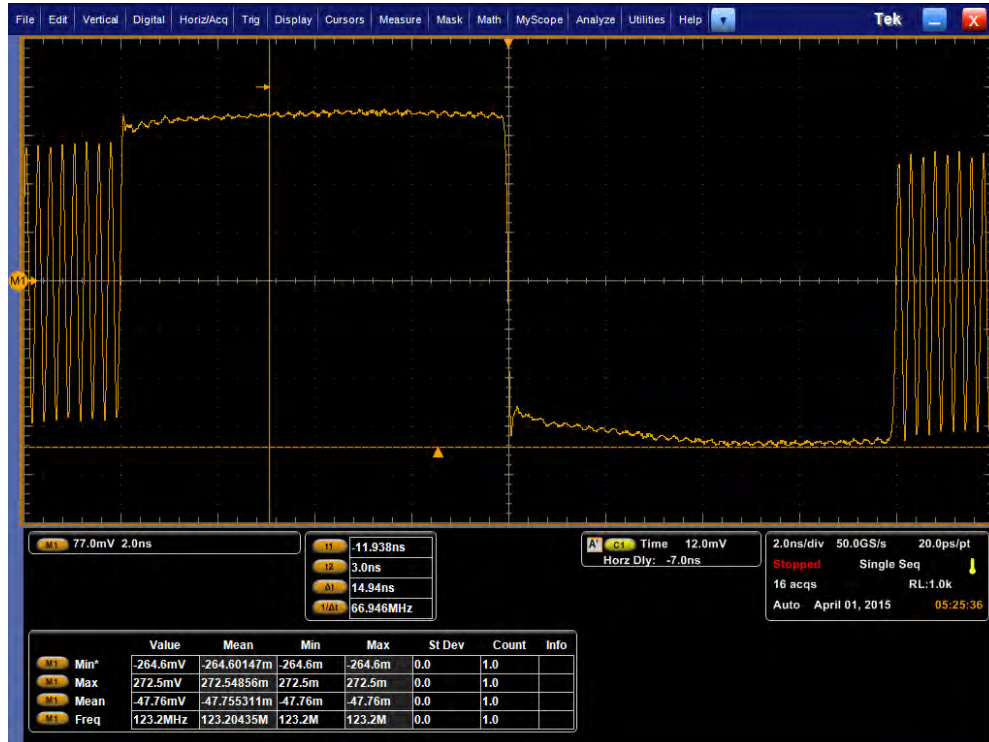

FIGURE 39. SCOPE SETUP AND MEASUREMENT
8. Acquire Waveform. An example is shown in Figure 39.